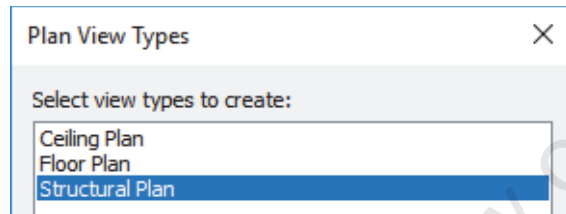

Figure 1–42
- Add three more levels above **TOS-Floor 1** with a distance of **4600** between each level, and one level below **Ground Floor** with a distance of **4600** between them. Rename them as shown in Figure 1–43. Click **Yes** to rename the corresponding views.